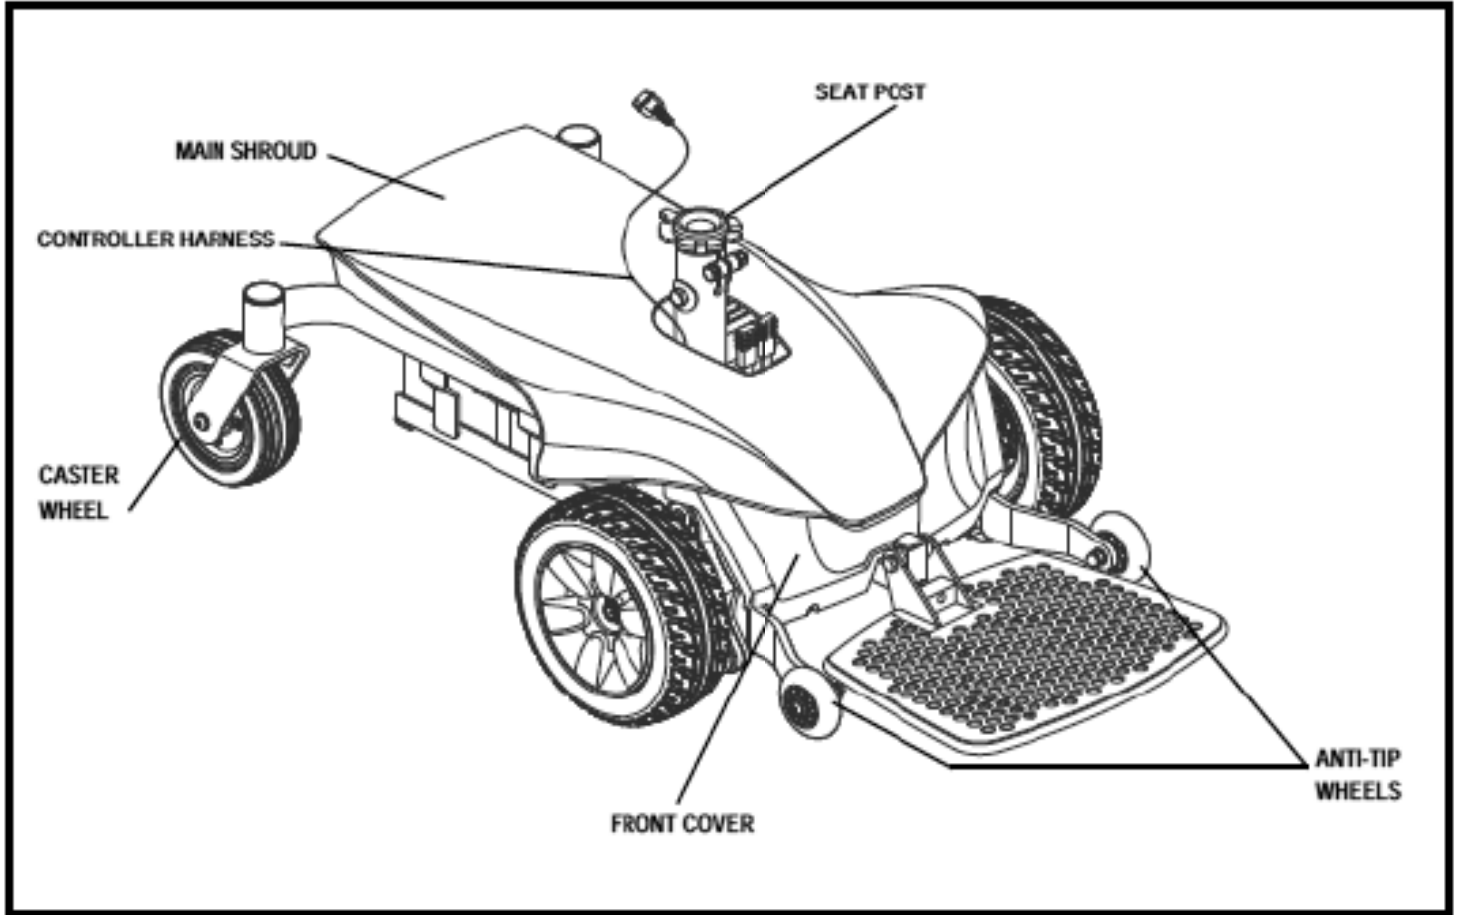

Figure 6. The Jazzy Elite ES Power Base
5. Plug the controller harness into the connector on the power base. See figure 6.